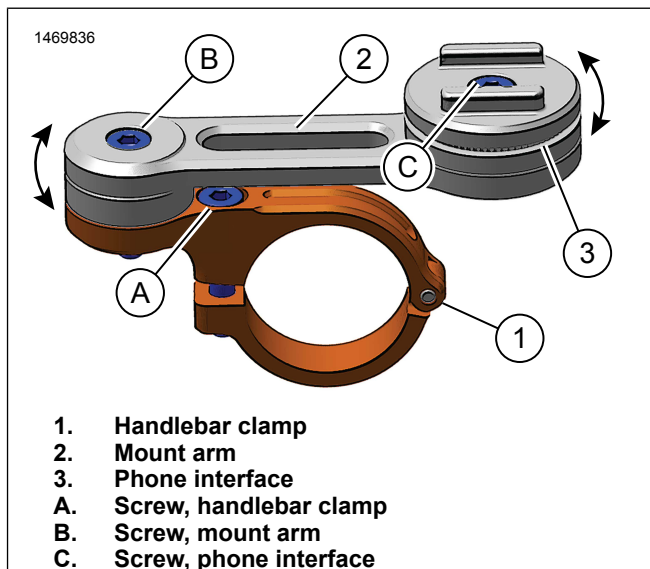

Figure 3. Pivot Points
2. See Figure 3. Loosen screw (B).
4. Tighten screw (B).
5. See Figure 3. Loosen screw (C).
7. Tighten screw (C).